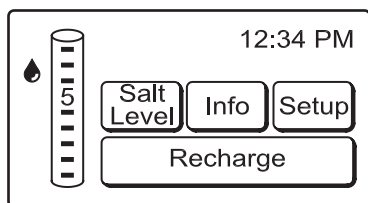

FIG. 45
1. Press the SETUP button on the softener status screen (See Figure 45).